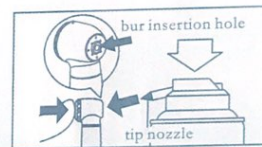

Fig.9
- 2) Depress the push button and lubricate the chuck directly through the bur insertion hole. (Fig.9)